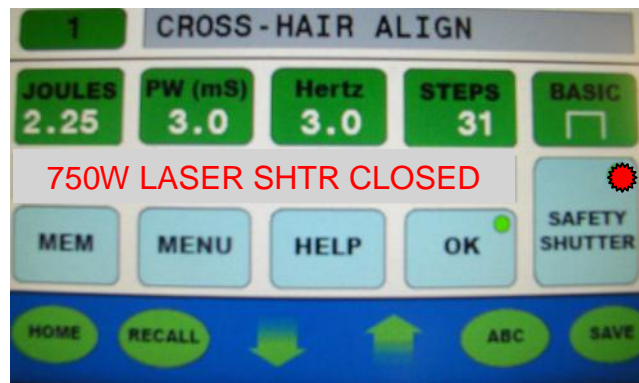

Figure 1
1. On the Main Screen put in the following Parameters. (Figure 1)
21. Verify the parameters on the Main Screen (**Figure 1**) match the parameters in step (1).